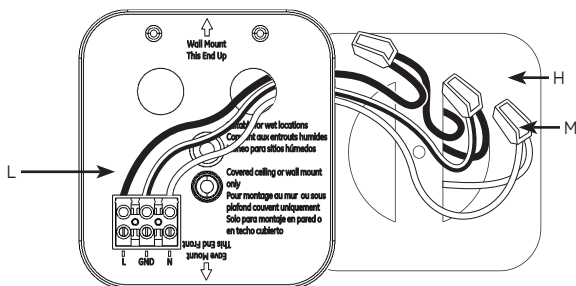

Figure 5
- Review final wiring connection diagram before proceeding with installation (see **Figure 5**).